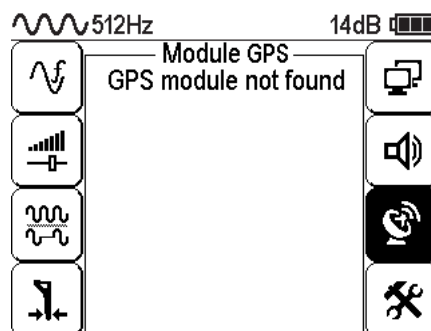

Fig. 2
3. If the module doesn't respond, the receiver shows the message "GPS module not found" (see fig.2)